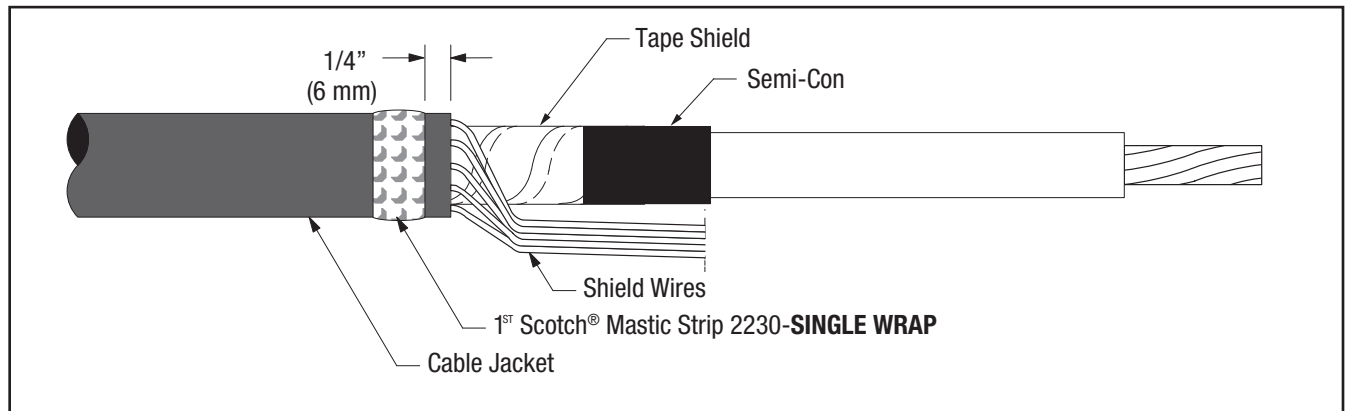

Figure 2
- 3.1 Select a Scotch® Mastic Strip 2230 from kit and remove white release liners. Using light tension, apply a **SINGLE WRAP** of Mastic around the cable jacket 1/4" (6 mm) from cut edge (Figure 2). Cut off excess.